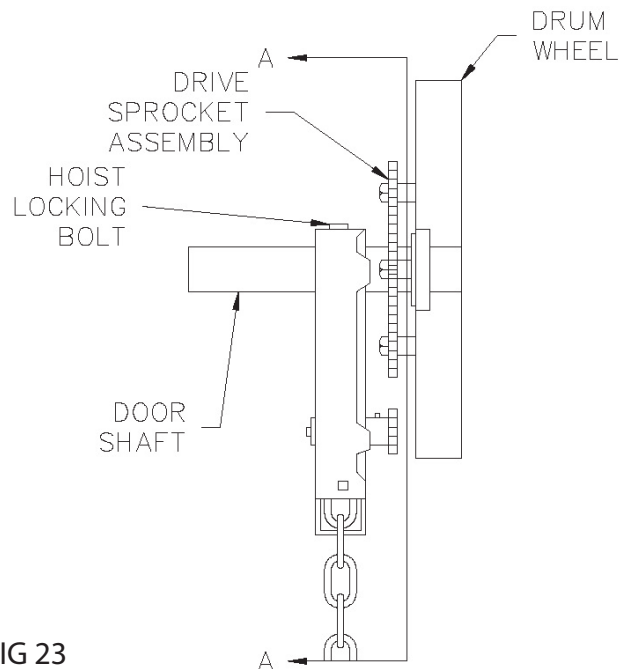
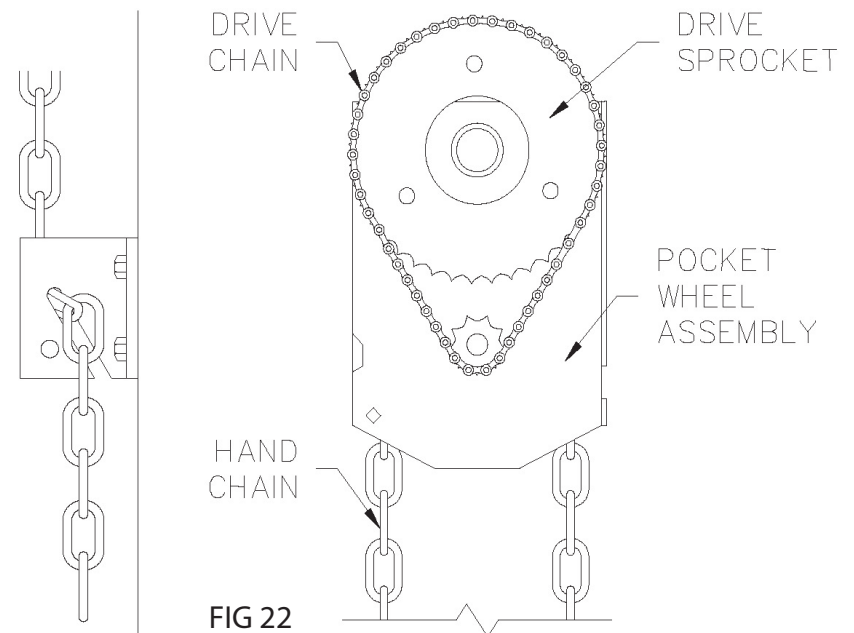

FIG 23
FIG 22
- Align the chain hoist so that the 41B9 sprocket on the pocket wheel assembly is in line with the 41A40 sprocket bolted to the barrel. Next, tighten the hoist-locking bolts to lock the pocket wheel assembly to the shaft to prevent it from shifting or rocking. See FIG 22 and FIG 23.
- Now install the hand chain keeper to the wall approximately four feet above the finished floor with the hardware provided. Refer to the figure in step #6 of this manual for an additional view. See FIG 22 and FIG 23.